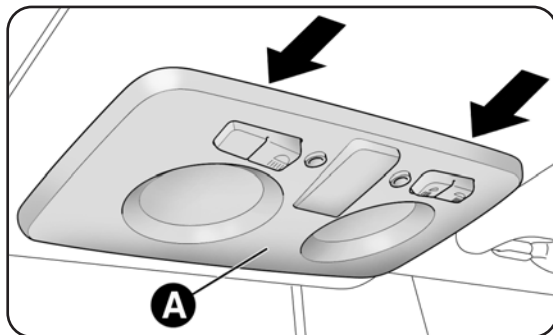
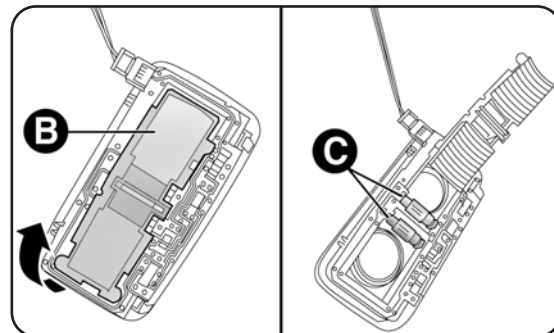

fig. 141
fig. 142
- remove courtesy light A-fig. 141 by applying leverage at the points shown by the arrows;
- open flap B-fig. 142 replace bulb C, releasing it from the side contacts. Make sure that the new bulbs are correctly secured between the contacts;
- close flap B-fig. 142 and secure courtesy light A-fig. 141 in its housing.